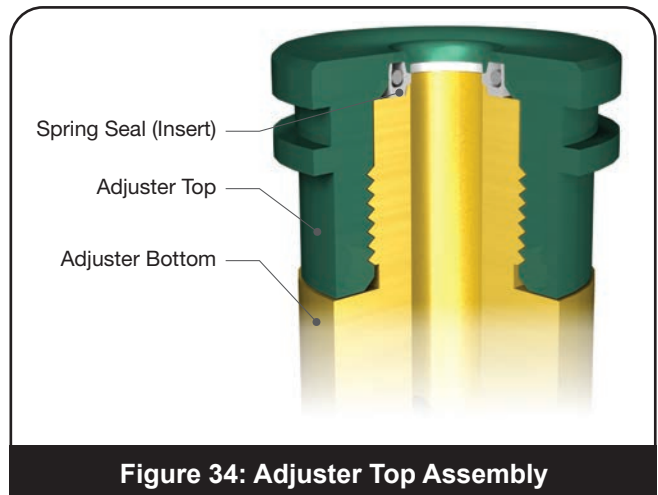

Figure 34: Adjuster Top Assembly
- ix. Inspect Adjuster Top to make sure that Spring Seal (Adjuster Top) did not flare out during installation and that the Spring Seal (Adjuster Top) is oriented as shown in Figure 34.